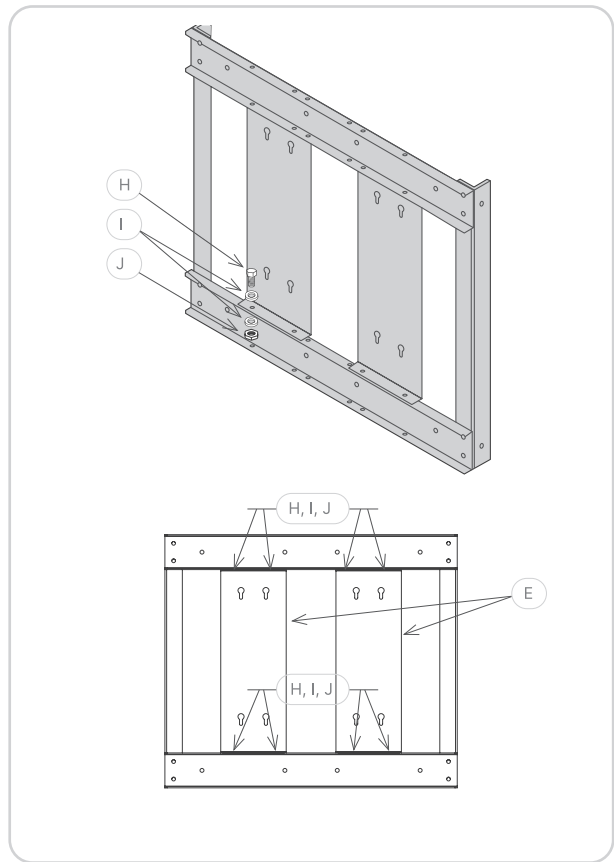

Figure 4. Installation of Assy Bracket for FTP-3XX and customer box.
Assemble the **Assembly Bracket (E)** as shown in **Figure 4** using (H), (I), and (J):